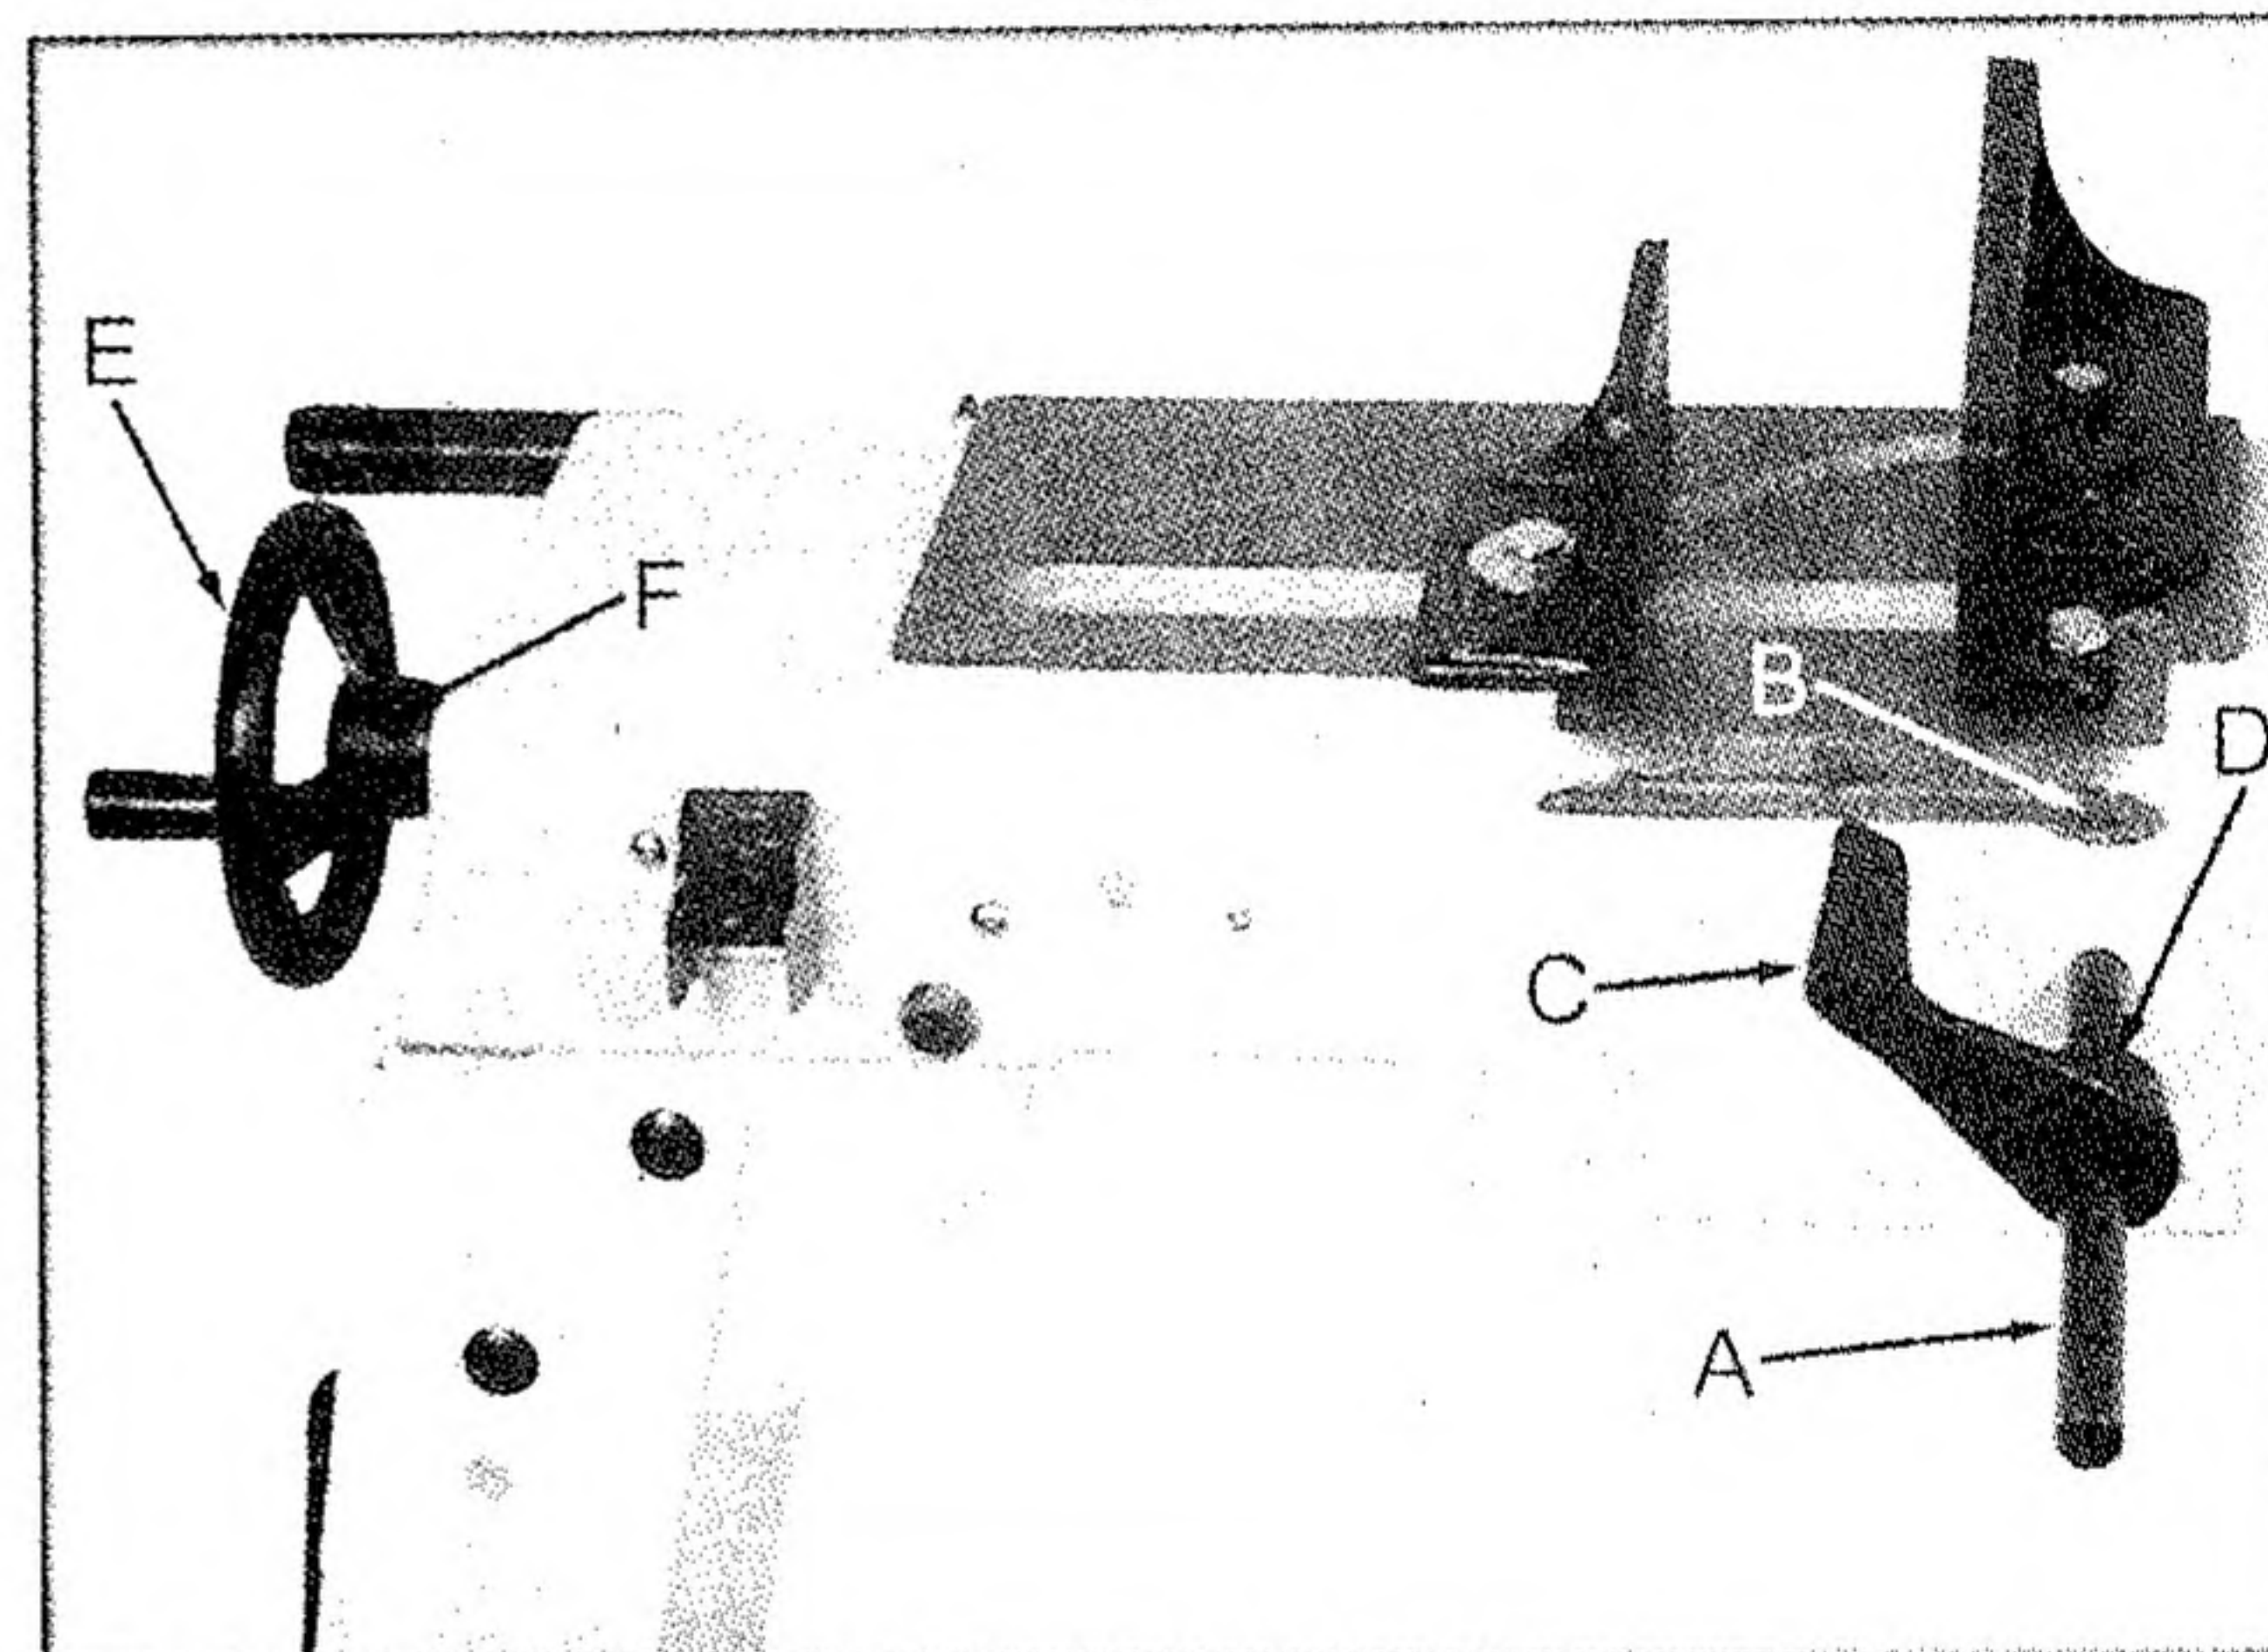

Fig. 6
16. Insert stop rod (A, Fig. 6) into bed and tighten set screw (B, Fig. 6). Slide stock stop (C, Fig. 6) onto rod and tighten set screw (D, Fig. 6) to hold in place.
17. Slide handwheel (E, Fig. 6) onto shaft and secure by tightening set screw (F, Fig. 6). Make sure set screw seats on flat portion of shaft.